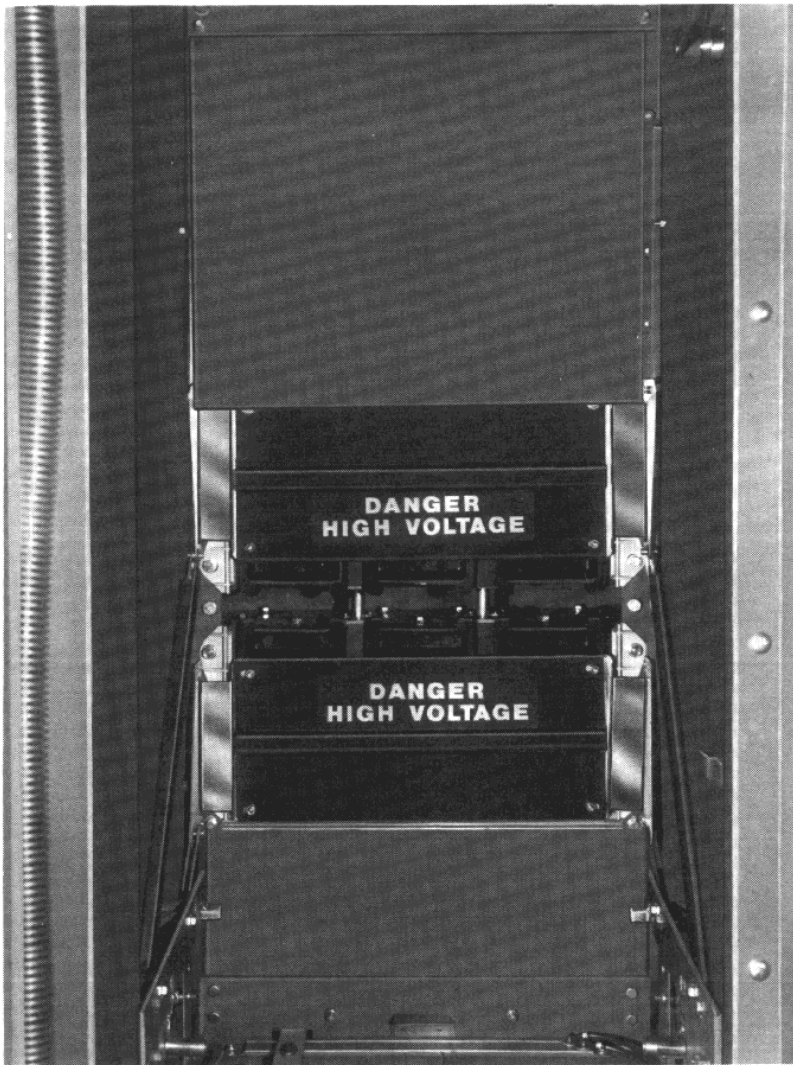

Figure 1-5.
1.2.3 Shutters (Figure 1-5 & 1-6)
Grounded steel shutters are automatically operated by the circuit breaker element to cover the stationary main contacts when the breaker is removed from the enclosure. These shutters are shown in Figure 1-5 & 1-6. The shutters are part of the stationary housing and are raised by rollers which are actuated by a ramp permanently bolted to the circuit breaker element. The shutters are closed in the test/disconnect positions and are raised to expose the HV stationary contacts as the breaker is moved from the test to the connected position. The shutters can be hand operated by holding up two interlock cams and simultaneously lifting the shutter.